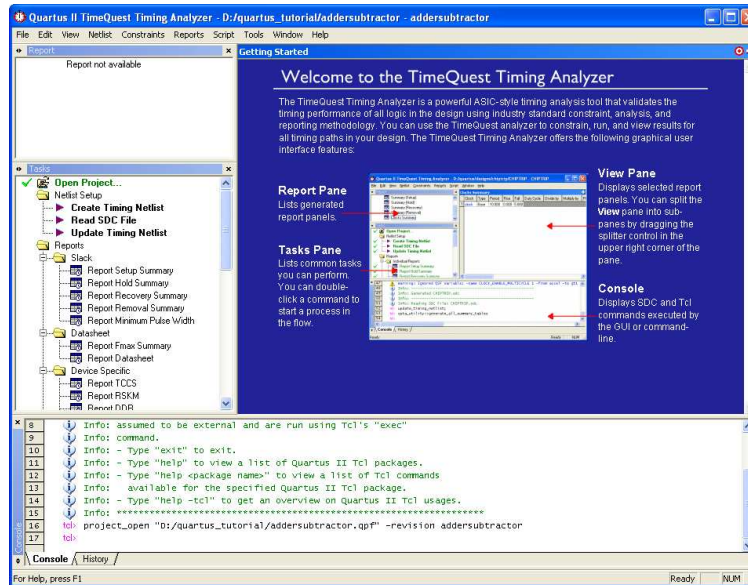
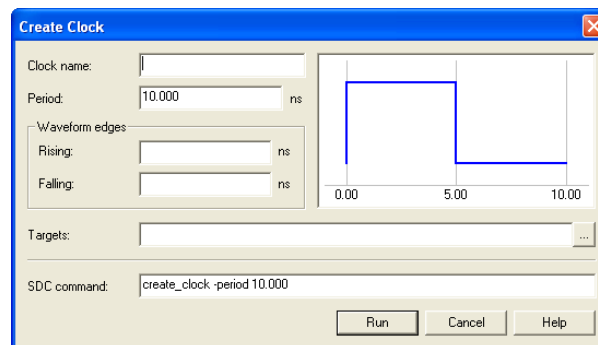
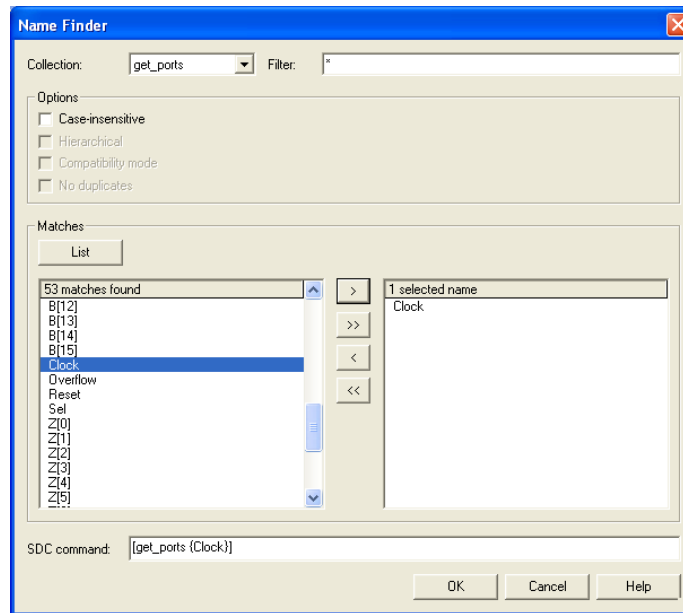
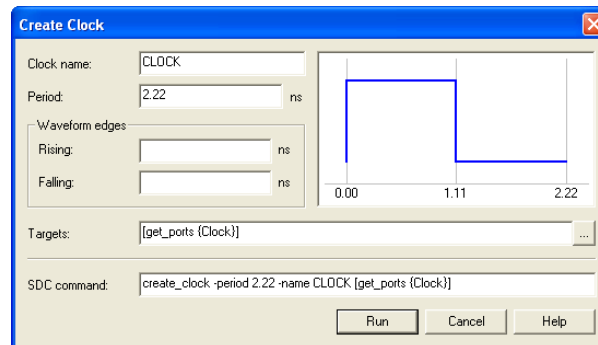

Figure 31: TimeQuest Timing Analyzer.
Figure 32: Create clock constraints.
Figure 33: Choose target clock.
Figure 34: Complete clock constraint.
1. Open TimeQuest Timing Analyzer by selecting Tools > TimeQuest Timing Analyzer, or by clicking the icon . Figure 31 shows the interface of TimeQuest Timing Analyzer. It is a very powerful tool for the designer to create, manage, and analyze timing constraints, and to quickly perform timing verification for their design. The compilation in Section 4 produced the  $f_{max}$  of 407.5 MHz, which translates to a minimum period of 2.4540ns. Suppose that we need a circuit that can operate at a clock frequency of 450 MHz. We can use the TimeQuest Timing Analyzer tool to create a new SDC (Synopsys Design Constraints) file containing the clock constraint.
In the TimeQuest Analyzer window, double click **Create Timing Netlist** under the **Tasks** heading to generate the timing netlist from database created after compilation. Then select **Constraints > Create Clock** from the menu to reach the dialog box in Figure 32. Specify a name for the clock you want to constrain. This name can be used to refer to this clock when creating other timing constraints. For this example, we will name the clock "CLOCK". As we want the circuit to operate at a clock frequency of 450 MHz, set the period to 2.22 ns in the **Period** field. To specify the actual clock this constraint is applied to, click on the ... button beside the **Targets** field in the **Create Clock** window to get the pop-up window in Figure 33.
Click on the list button in the middle left of the window to get a list of all the ports. Select **Clock** from the list of matches on the left and click on the **>** button to reach the display in Figure 33. This tells the TimeQuest Timing Analyzer to constrain the **Clock** port to the period you have specified. Notice in a larger design with many ports, we can enter the name of the port in the **Filter** field located in the top right of the window to reduce the number of matches in our search. Click **OK** to return to the dialog box in Figure 34.
In the SDC command field at the bottom of the dialog box in Figure 34, we can see the actual command that would be written into the SDC file. It creates a simple clock named **CLOCK** with a 2.22 ns period and associates this constraint with the port **Clock**. Click **Run** to return to the window in Figure 31. Select **Constraints > write SDC File** and save the file as *addersubtractor.out.sdc* in the project directory *quartus\_tutorial*. Close the TimeQuest Timing Analyzer window to return to the Quartus® II main display.